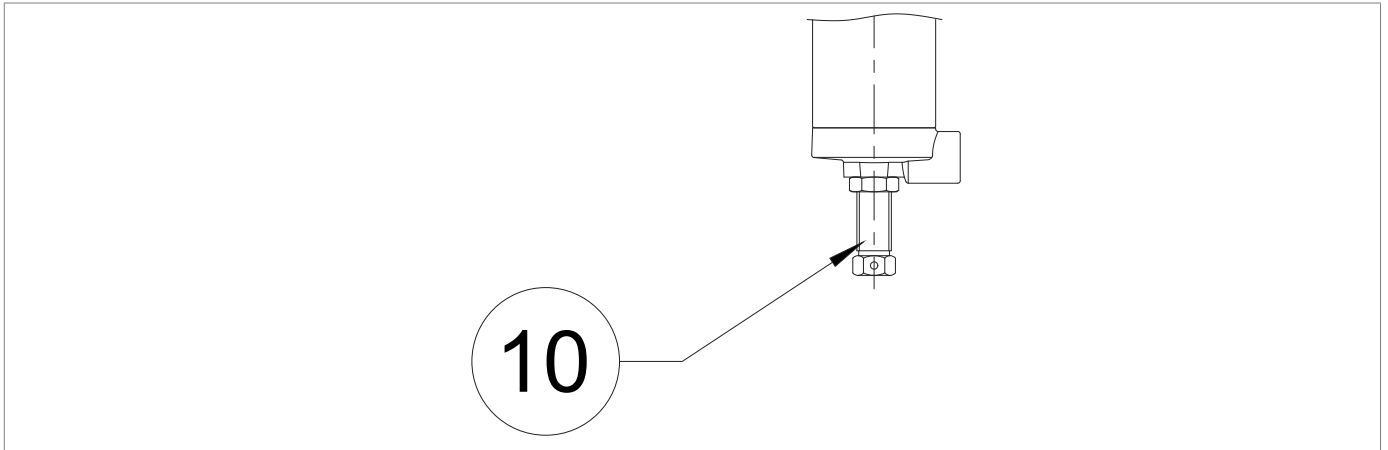

Fig. 8.30. 200/A/FO and 200/A series pilots
2	Completely unscrew the fixing nut and adjusting screw (Fig. 8.30) of the pilots (3, 11) to relieve the springs.
4	Completely compress the pilot spring (3) by turning the adjusting screw (Fig. 8.30) clockwise.
6	Turn the adjusting screw (Fig. 8.30) of the monitor pilot (11) clockwise to increase the downstream pressure value to the selected monitor operating value. ! NOTICE! Check the pressure referring to the pressure gauge (5) located upstream.
7	Turn the adjusting screw (Fig. 8.30) on the pilot (3) anti-clockwise to relieve the calibration spring until the pre-set downstream pressure value has been reached.
13	Tighten the adjusting screws and fixing nuts (Fig. 8.30) on the pilots (3, 11).
2	Completely unscrew the fixing nut (Fig. 8.30) and the pilot adjusting screw (3, 10).
5	Completely compress the pilot spring (3) by turning the adjusting screw (Fig. 8.30) clockwise.
7	Slowly increase the downstream pressure by turning the adjusting screw (Fig. 8.30) of the monitor pilot (10) clockwise until the tripping pressure value for the M/A accelerating valve (11) has been reached. NOTICE! Check the pressure referring to the pressure gauge (5) located upstream.
9	<p>Turn the adjusting screw (Fig. 8.30) on the monitor pilot (10) anti-clockwise to decrease the downstream pressure value to the selected monitor operating value.</p> <div style="border: 1px solid black; padding: 5px;"> <p>! NOTICE!</p> <ul style="list-style-type: none"> <li>• Ensuring that the M/A accelerating valve (11) has interrupted the gas discharge;</li> <li>• Check the pressure referring to the pressure gauge (5) located upstream.</li> </ul> </div>
10	<p>Turn the adjusting screw (Fig. 8.30) on the pilot (3) anti-clockwise to relieve the calibration spring until the pre-set downstream pressure value has been reached.</p> <div style="border: 1px solid black; padding: 5px;"> <p>! NOTICE!</p> <p>Check the pressure referring to the pressure gauge (5) located upstream.</p> </div>
16	<p>Tighten the adjusting screws (Fig. 8.30) and fixing nuts of the pilots (3, 10) and the M/A accelerating valve (11).</p>
2	Completely unscrew the fixing nut (Fig. 8.30) of the pilot screw (3).
3	Completely relieve the pilot spring (3) by turning the adjusting screw (Fig. 8.30) anti-clockwise.